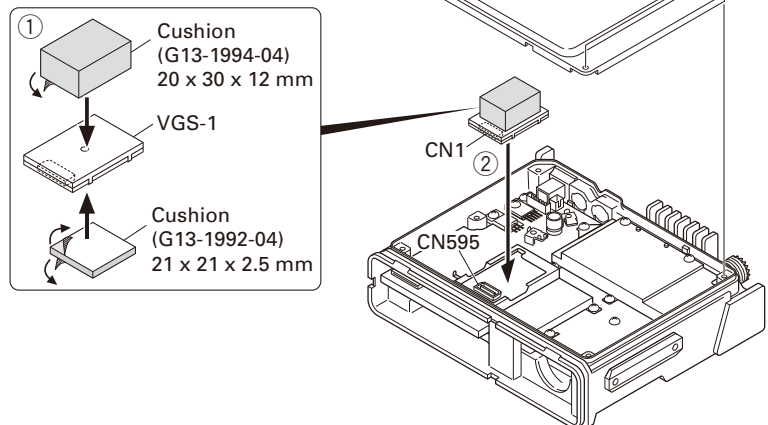

Fig. 4
2. Attach two cushions to VGS-1 as shown in Figure 4. (①)
3. Insert the VGS-1 connector (CN1) into the TX-RX unit (A/2) connector (CN595). (②)